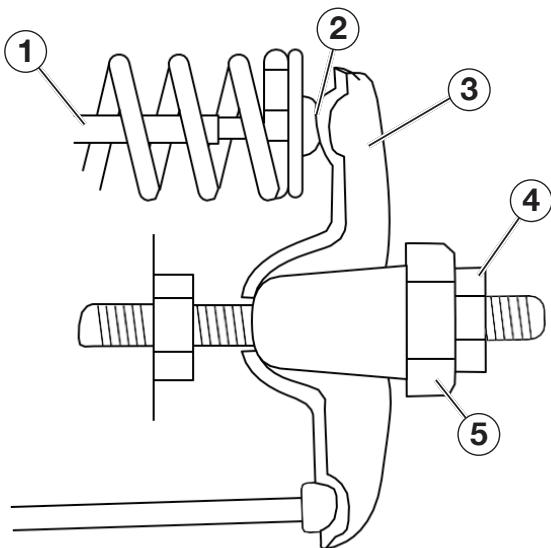

Figure 27
5. Insert a feeler gauge between the rocker arm and the push rod and check for clearance (see Figure 27). See Table 2 for valve lash specifications